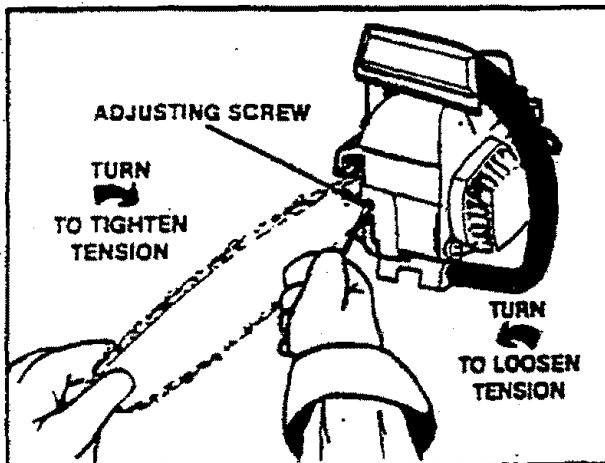

Figure 10
1. Hold the tip of the Guide Bar up and turn the Adjusting Screw clockwise until the chain does not sag beneath the Guide Bar. Figure 10.